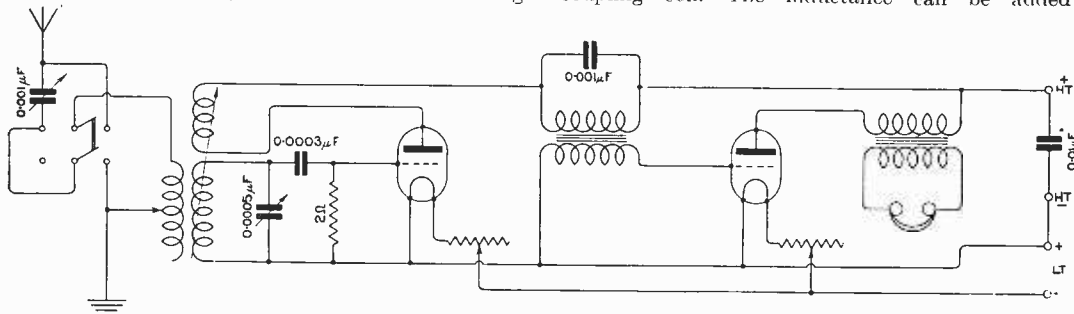

Fig. 3.
"J.W.D." (Finsbury Park).—We suggest that you construct the Broadcast Receiver described in our issues of August 26th and September 2nd. Very complete instructions are given for making this set, and the results justify whatever pains are taken to make it. Plug-in coils are used, therefore you will be able to cover whatever wavelength range you may desire. Should you experience any trouble while making the set, we shall be very pleased to answer any enquiries you may address to us. See circuit Fig. 3 for experimental reception on wavelengths not used for broadcasting.
(1) We do not care for your circuit. A parallel A.T.C. on short wavelengths is useless. See Fig. 3. (2) Bare 7/22 cable will suffice, but we prefer to run insulated cable to the earth connection. (3) Yes, if it is of stout construction. (4) See the issue of June 10th, page 326. For FL use honeycomb coils.
"DRAKE" (Bowdon) asks (1) Whether a certain circuit is satisfactory. (2) If, when using a grid condenser, the oscillations actually pass through the dielectric of the condenser so as to affect the potential of the grid. (3) For an opinion on certain methods of connecting up his aerial circuit. (4) For an explanation of Fig. 3, page 679, of the issue nearest August 28th.
(1) Yes, except that only one blocking condenser is necessary in the anode circuit, namely, that across transformer primary and H.T. battery. You will not obtain permission to use reaction of the type suggested. For short wavelengths the A.T.I. should be used in series with the A.T.C. (2) The instantaneous accumulation of a charge on one side of the plates, induces an imposing charge on the other side, thus affecting the potential of the grid. (3) Immaterial which method is employed. (4) The switch described is not a "plug-in" switch at all—it is a two-position throw-over switch. In one position the curved tongues make contact at A and C as shown in the diagram, all three valves then being in circuit. In the other position the left-hand tongue makes contact with B, which is not connected in circuit, and the right hand tongue makes contact with D. This means that the last note magnifying valve is cut out.